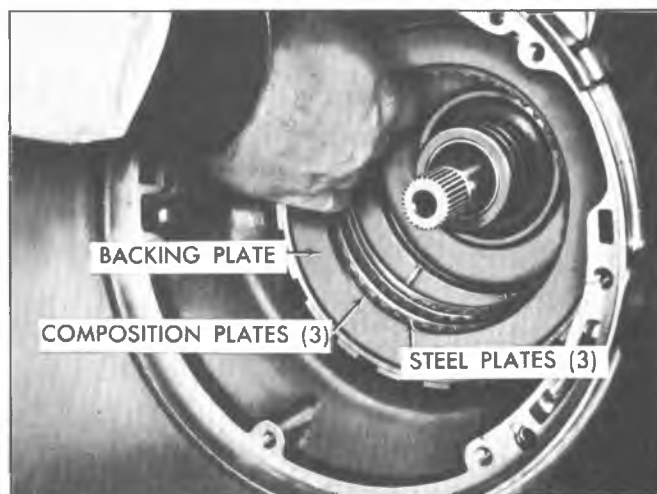

Fig. 132T--Installing Intermediate Backing Plate and Clutch Plates
- a. (All except CY Model) Oil and install three (3) steel and three (3) composition clutch plates. Start with the waved steel plate and alternate composition and steel clutch plates (fig. 132T).
- b. (CY Model) Oil and install two (2) steel and three (3) composition plates. Alternate composition and steel clutch plates (fig. 132T).
13. Install intermediate clutch backing plate, ridge up (Fig. 132T).